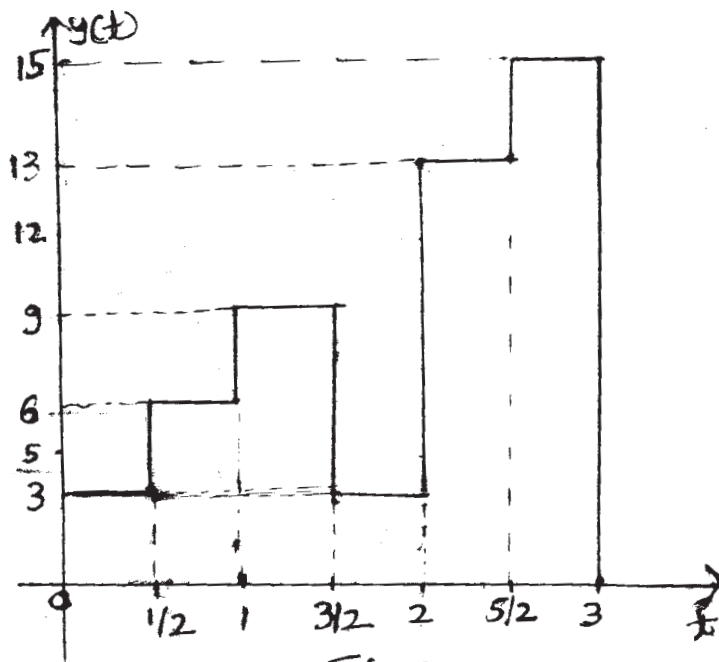

Fig 2
- Q6)** For the signal $y(t)$ shown in Fig 2.